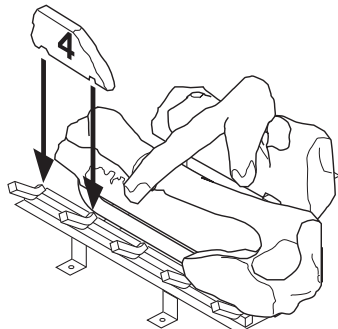

Figure 27 - Installing Log No. 4
5. Place log #4 (small log) onto front left part of grate making sure the notches fits over the prong of the grate. See Figure 27.